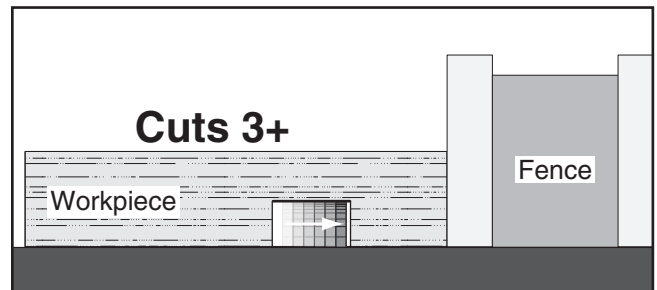

Figure 120. Additional single-blade dado cuts.
8. Make additional cuts in center of dado to clear out necessary material (see **Figure 120**). Dado is complete when channel is completely cleared out.